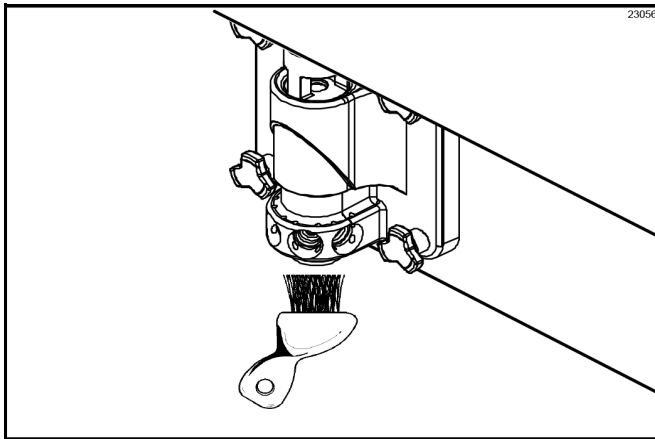

Figure-24
4. Return to the freezer with a small amount of sanitizing solution. With a pail below the door spout, dip the door-spout brush into the sanitizing solution. Brush-clean the door spout, bottom of the driven spinner, spinner blade, and syrup line fittings. (See Figure-24.)